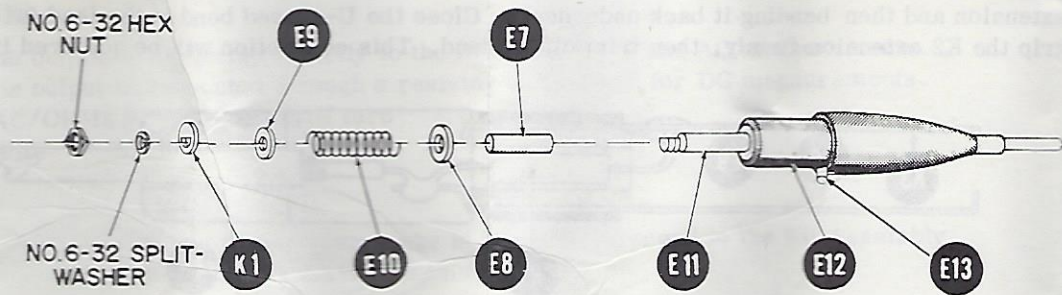

Figure 1
1. () Figure 1. Slip the small diameter fiber tube E7 over the metal stud E11 protruding from the nosepiece assembly.
2. () Figure 1. Slip the large diameter fiber washer E8 over E7 and seat it on the blunt end of nosepiece E12.
3. () Figure 1. Slip the compression spring E10 over the fiber tube E7.
4. () Figure 1. Hold the spring E10 compressed so that the threaded end of the metal stud E11 is exposed. In the order given, slip the following parts over the threaded end of the stud: the small diameter fiber washer E9, the brass rotor contact K1, the No. 6 split washer and the No. 6-32 hex nut. Tighten the nut and then release the spring.